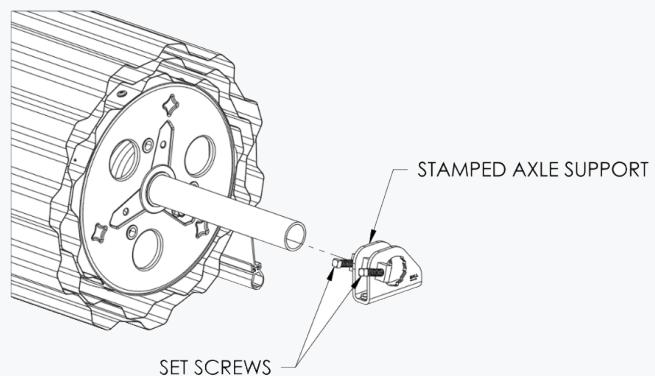

figure 8: Stamped Axle Support Installation
- ♦ Using one (1) Stamped Axle Support per side, with directional arrows pointing towards wall, slide Stamped Axle Support over axle.
- ♦ Tighten 3/8-16 square head set screws hand tight, will position and tighten completely once door is installed. See **Figure 8**.